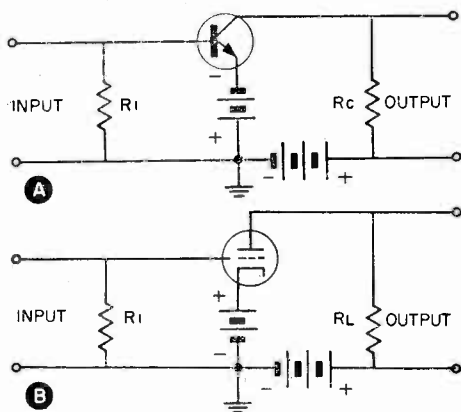
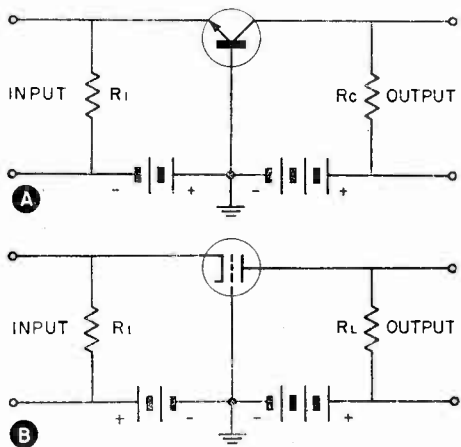
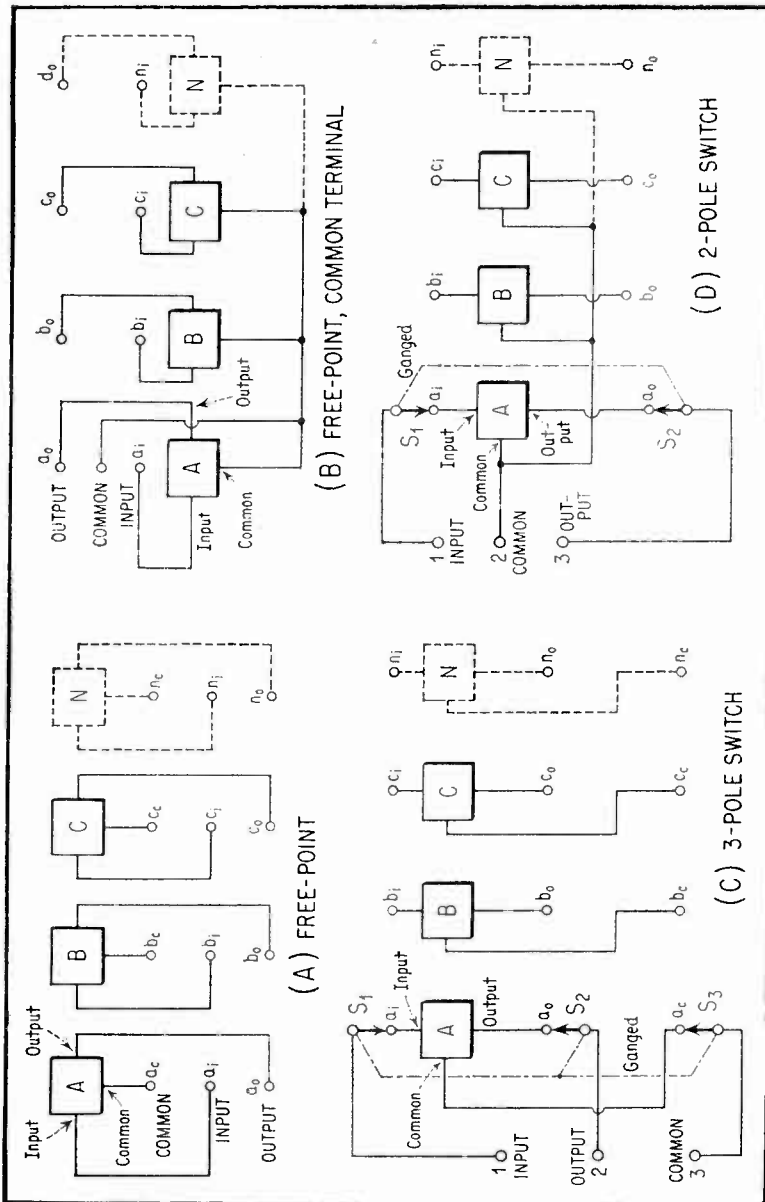

Figure 2a
Figure 2b
Fig. 2. 3-Terminal Configurations.
To service a transistor receiver you should be familiar with the operation of the various stages. You should also be able to identify the input and output of each stage by looking at the schematic. The three types of circuits you will encounter with their tube counterparts are shown in Fig. 2. You must also understand the biasing methods employed in all stages.
Figure 2 shows the principal methods of connecting 3-terminal units in a substitution box. When all three terminals must be accessible externally, 2(A) or 2(C) is
available. The free-point scheme (Figure 2A) requires $3n$ panel binding posts or jacks, where n is the number of components. These terminals are arranged in three rows: a_0 to n_0 for the input, a_1 to n_1 for the output, and a_n to n_n for the COMMON terminal of each component. When internal switching is permissible and all three terminals must be accessible externally, a 3-pole switch ($S_1S_2S_3$) is required, as shown in Figure 2(C).
When the common terminals of the 3-terminal units may be connected together, the simplified schemes shown in Figures 2(B) and 2(D) are available. In the free-point arrangement (Figure 2B), the number of 3-terminal units. This is a saving of $n-1$ over the number of terminals required by the full-free point arrangement (Figure 2A). The panel terminals are arranged in two rows (a_1 to n_1 for the input, and a_0 to n_0 for the output). A single COMMON terminal on the panel is connected to the common terminal of each component. In the switch arrangement (Figure 2D), a 2-pole switch (S_1S_2) takes the place of the 3-pole switch required in Figure 2(C).